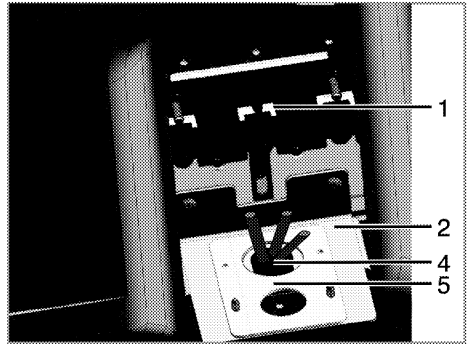

Fig.5
2 - Remove the Power Cord/Conduit Plate shown in Figure 5, by removing the two screws that secure it to the Range Bracket.
- 2 -Determine the size of conduit needed and if necessary remove the Power cord/Conduit Plate shown in Figure 7 and reverse the plate so that the proper size opening in plate for your conduit is directly over the 1-3/8 in opening in the range bracket Figure 5. Secure the Power Cord/Conduit Plate using the same screws that were removed to take the plate off.